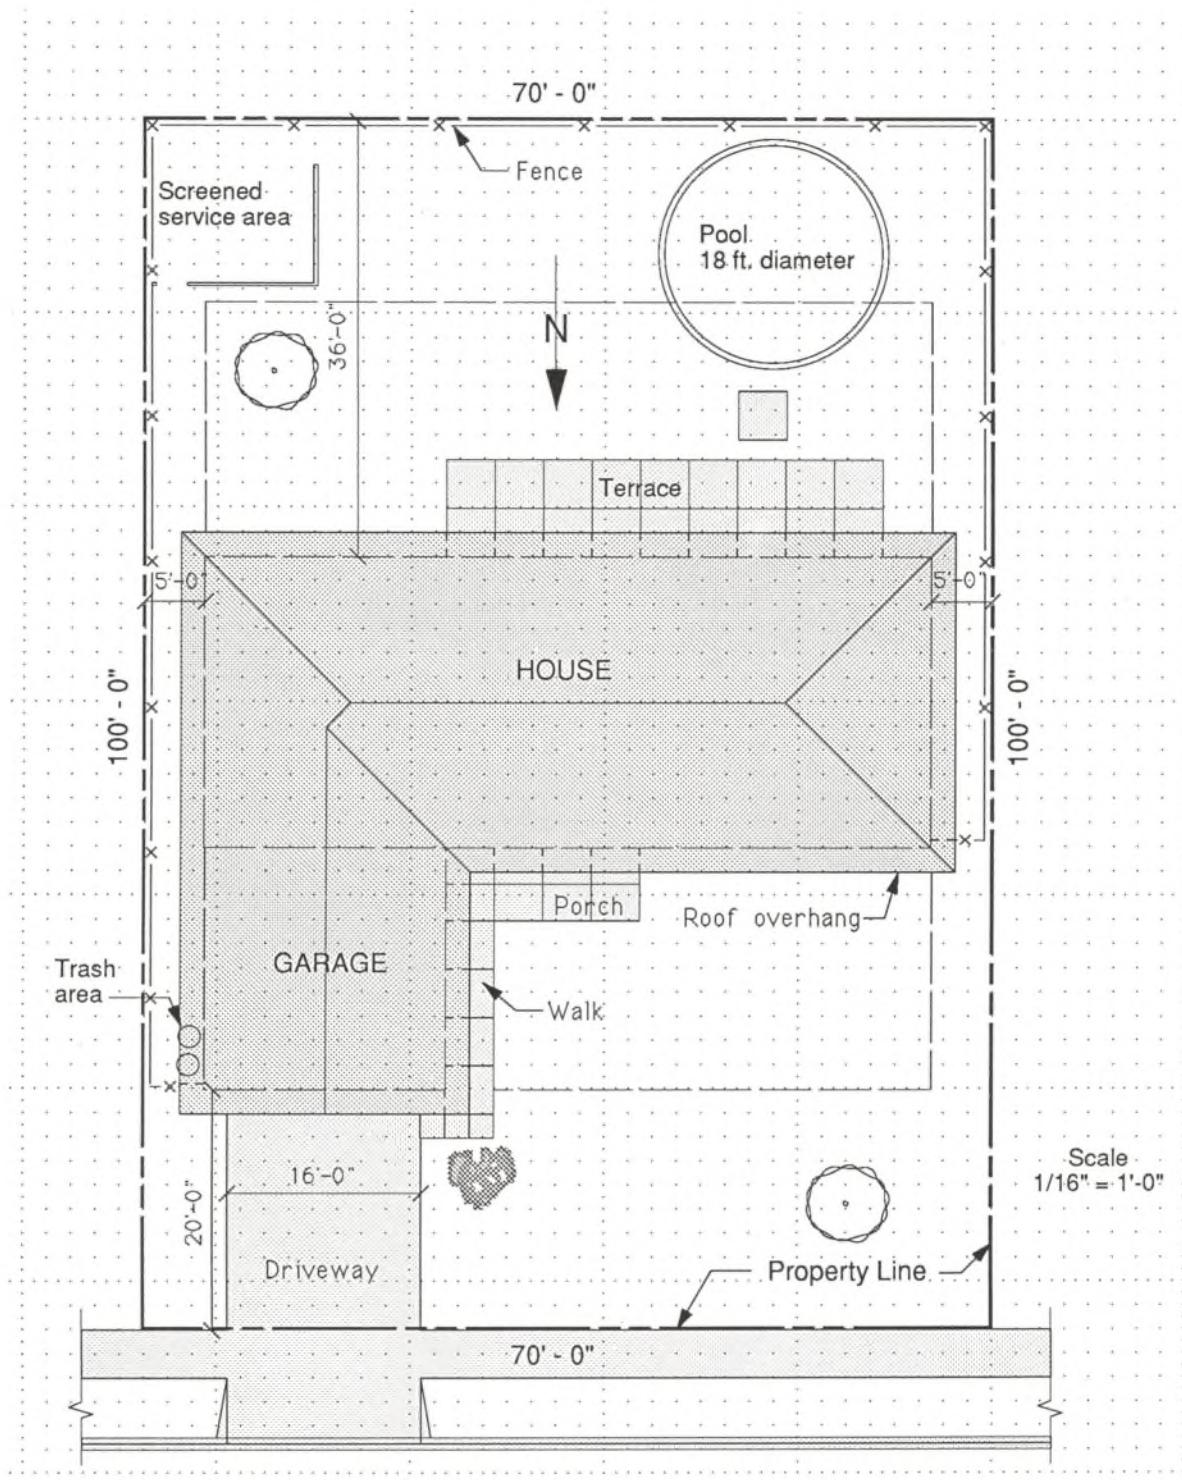

Fig. 26.6 An example of an L-shaped house on a 70' x 100' lot.
4. If you are drawing plans for remodeling or an addition, measure the house and garage and draw them on the lot. Refer to Figs. 26.6 through 10 and Unit 29, Remodeling and Additions.
9. Referring to Figs. 26.6 through 10, add any additional concrete work, landscaping, roofed-over areas, etc.
The examples of basic house shapes shown in Figs. 26.6 through 10 have been included to introduce you to a few layout possibilities. One of these layouts may serve to guide you in planning your project.
The L-shaped plot-plan layout, Fig. 26.6 is a very functional arrangement of house and garage, and utilizes lot space to the fullest.